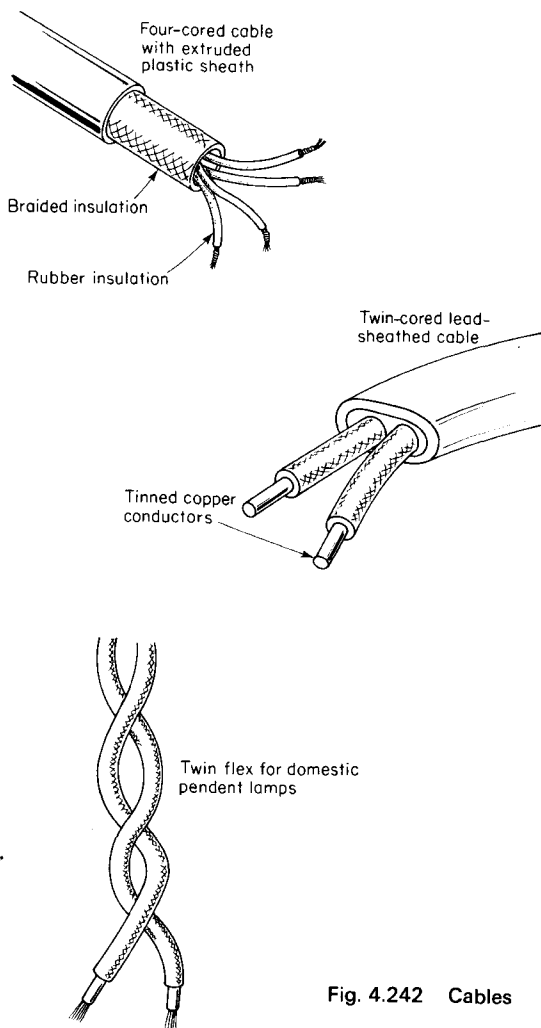

Fig. 4.242 Cables
- (1) a conductor which carries the current;
- (2) insulation which confines the current to the conductor. Most conductors are made of either copper or aluminium. The main insulating materials are vulcanized rubber, PVC, polythene and impregnated paper. Some cables have a rubber-insulated conductor enclosed in a lead or aluminium sheath. However, cables insulated and sheathed with PVC have almost entirely replaced the metal-sheathed cables. Some typical cables are shown in Fig. 4.242.